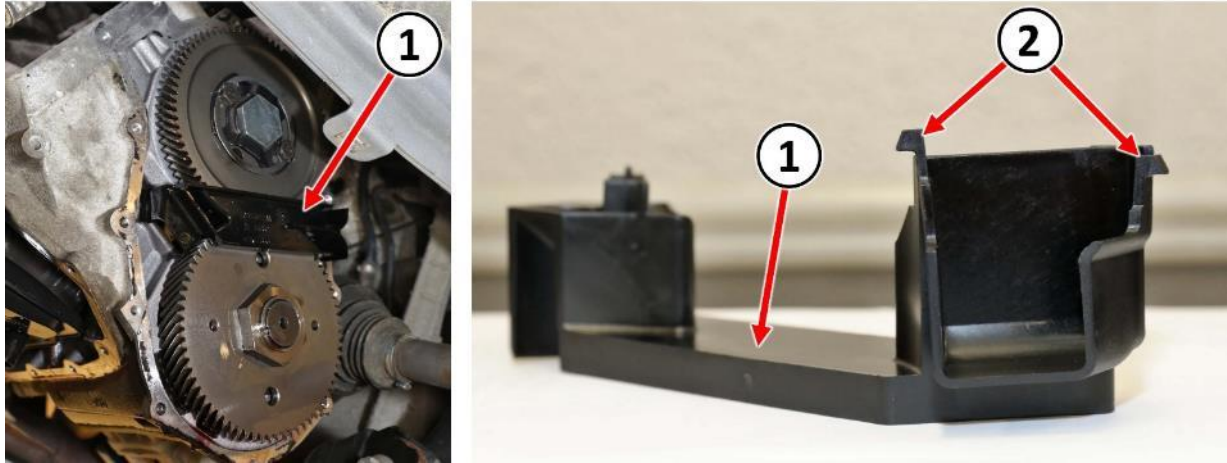

Figure 19 – Oil Scavenger
30. Remove the plastic oil scavenger (1) (Figure 19).
**NOTE:** Broken retaining tabs (2) on the oil scavenger (1) are acceptable because the scavenger is held in place by the transfer gear cover. However, if the scavenger is broken in such a way as to compromise its functionality, then it must be replaced (Figure 19).